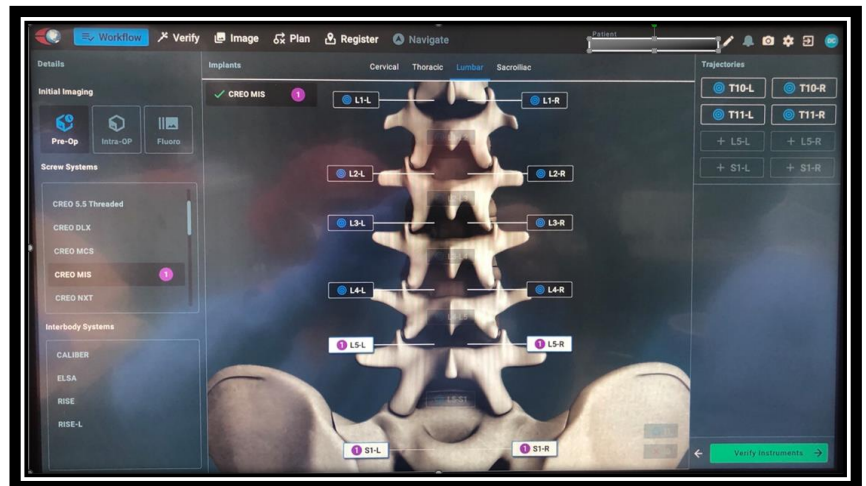

Figure 2
- In the “Workflow” screen, select the patient, initial Imaging (Pre-op, Intra-op, or Fluoro), the screw system (Select CREO MIS), the spine region (Thoracic, Lumbar, Sacroiliac) and Trajectories (instrumented levels) per the two screens (Figures 2 and 2a). Click the Right Arrow to advance to the “Verify” tab.